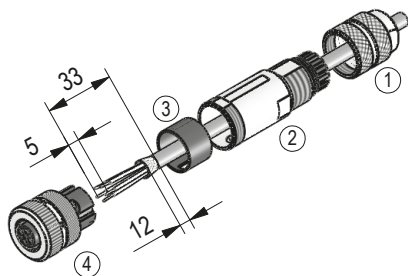

Fig. 13: Straight matting connector M12 T coded
- Accessory SIKO art. no. "89115" M12 T coded (socket 4 pole operating voltage) (Fig. 13).
Mounting (Fig. 13)